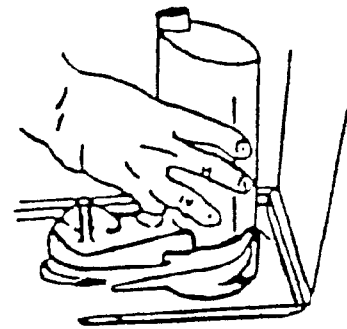

Fig. 3
5. Lock pump housing in bowl by pushing housing straight into bowl location until it snaps into position. Press down on top of the impella section to assure it is down all the way into well section (see Fig. 3).